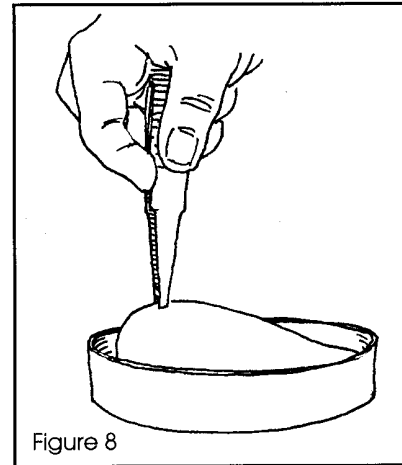

Figure 8
- b. Use flamed forceps to place a 47 millimeter absorbent pad in the bottom section (Figure 8) to receive the selected culture medium.